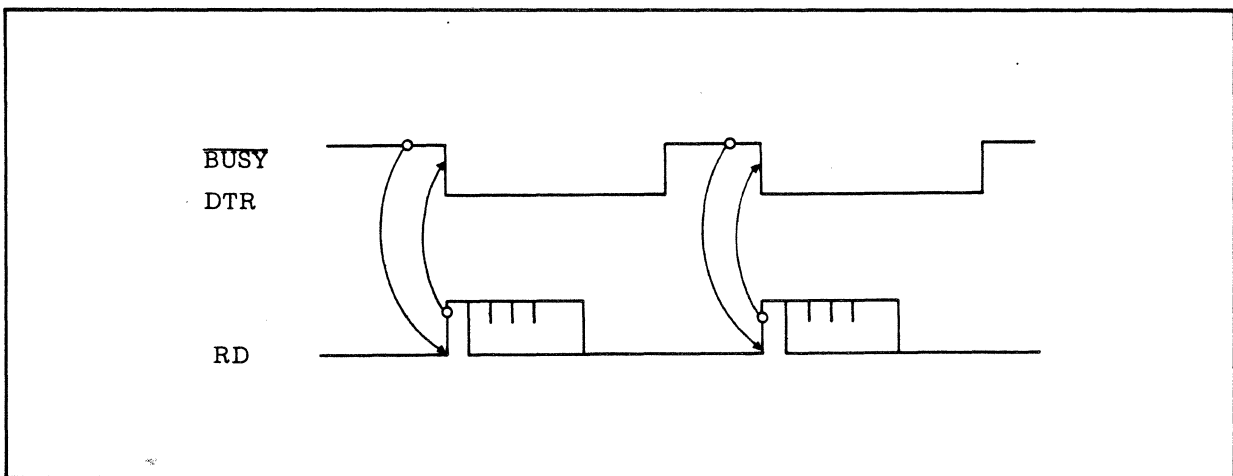

Figure 4-C.6. BUSY and DTR Input Signal Diagram
The ICD can stop data transmission if a BUSY signal is detected from a low-speed terminal. Normally, the terminal sets the BUSY signal to L, from the leading edge of the receive data (RD) starting bit to the completion of data processing. The ICD suspends its data transmission to the terminal as long as the BUSY signal is at L (Figure 4-C.6).